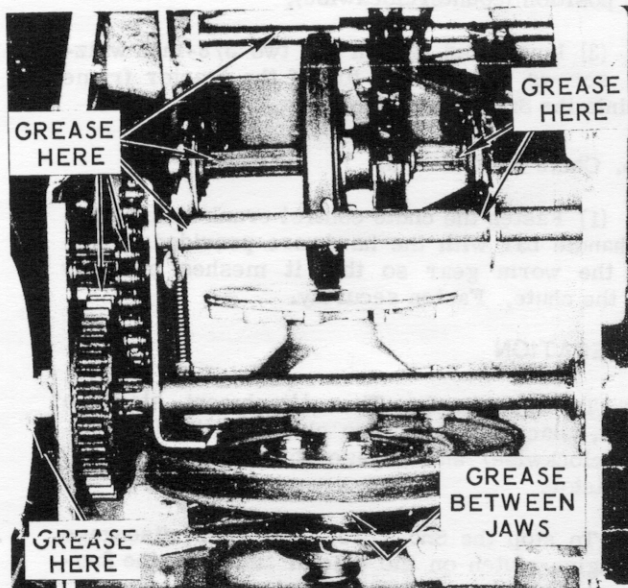

Figure 6
a. At the start of each season grease the gears, hex and fork shaft, jaw coupling and chains. Use Ariens Moly Lithium grease. See Figure 6.